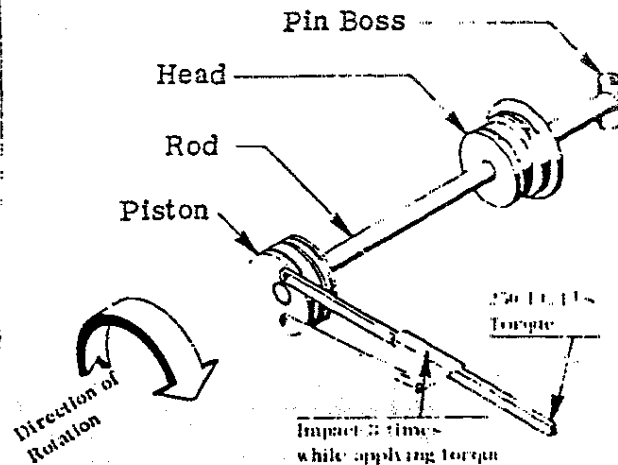

Figure F-6. Piston/Rod Assembly
14. Torque the piston onto the rod at 250 ft. lbs (35 kg-m). Impact the wrench three times with a heavy plastic hammer while maintaining the torque (Figure F-6).